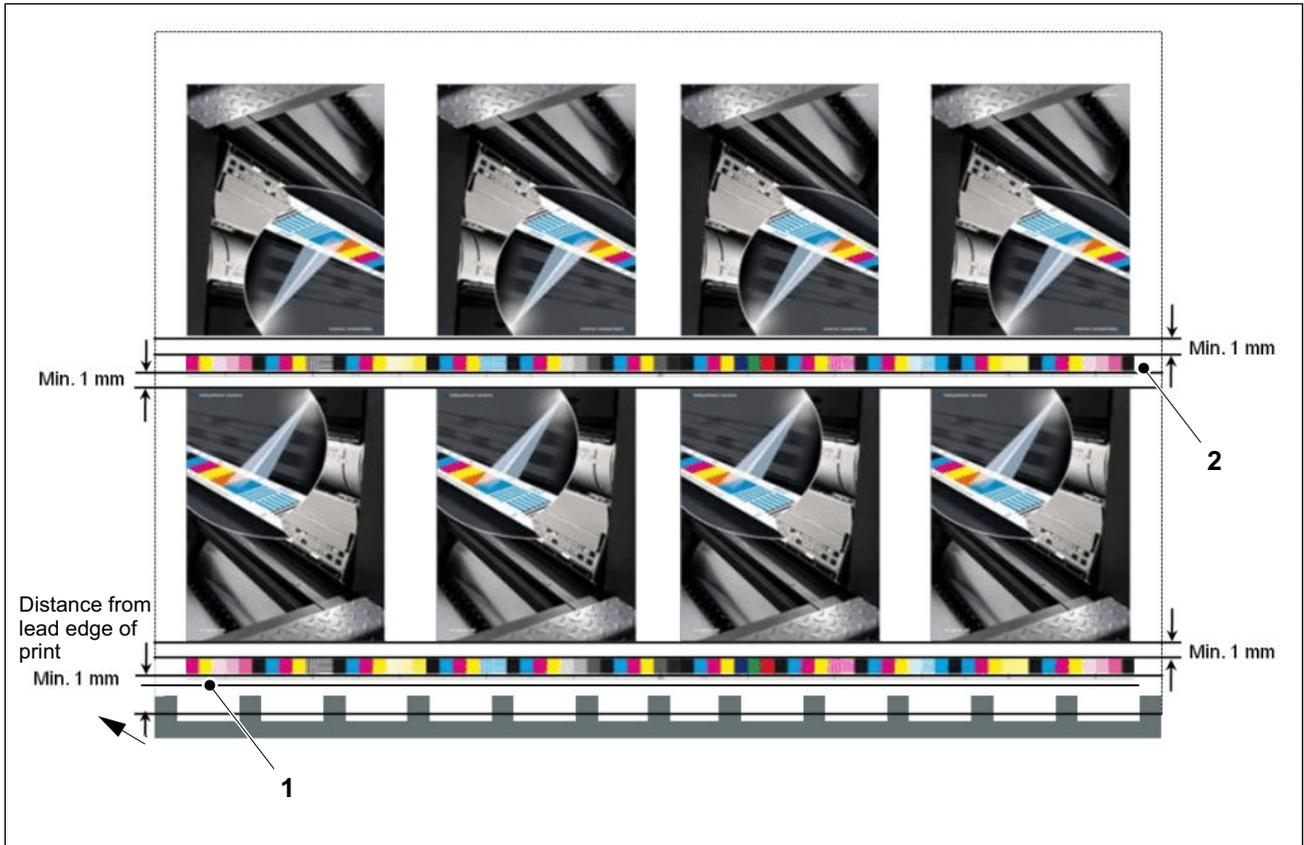

Fig. 31 Mounting Princt Inpress Control
- You can mount the quality control strip at any position you wish between the lead edge of print (Fig. 31/1) and the center of the sheet (Fig. 31/2).